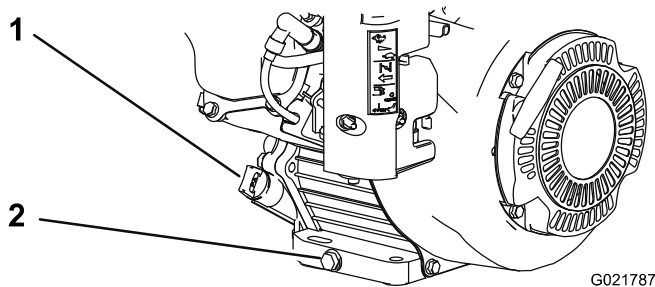

Figure 21
4. Remove the drain plug (Figure 21).